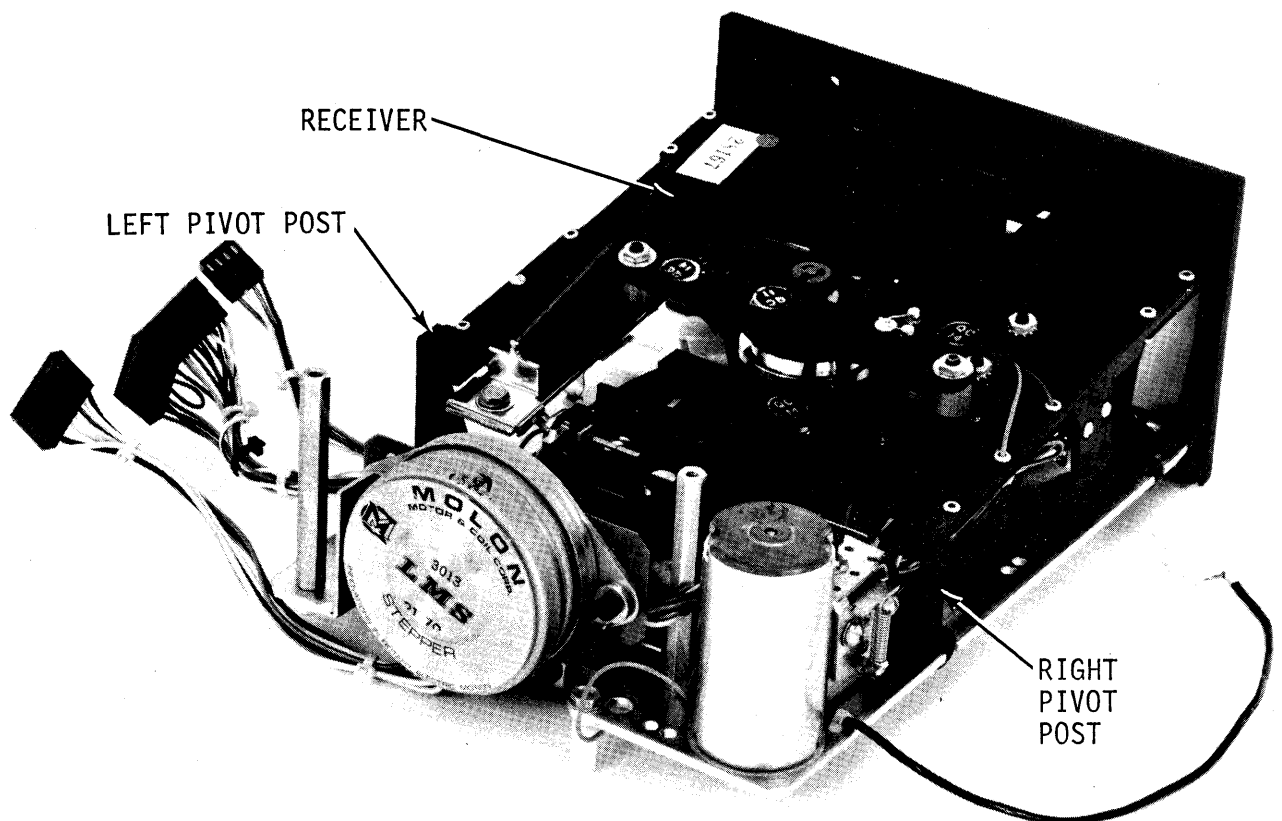

Figure 6-14. Receiver Details
- d. Loosen the left hand pivot post mounting screw, then separate the receiver from the left hand pivot (see figure 6-14).